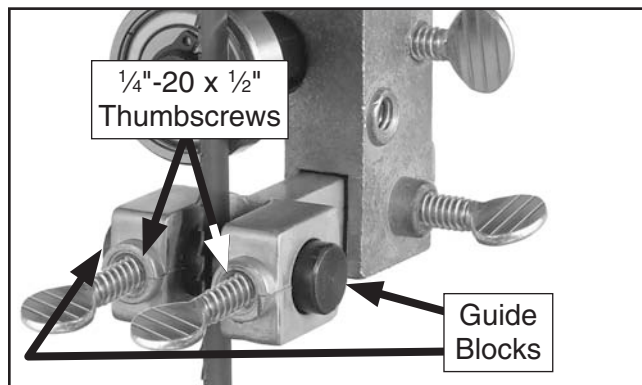

Figure 16. Blade guide installation.
25. Insert the guide blocks into the upper and lower blade guide assemblies, then secure them with the 1/4"-20 x 1/2" thumbscrews, as shown in **Figure 16**.